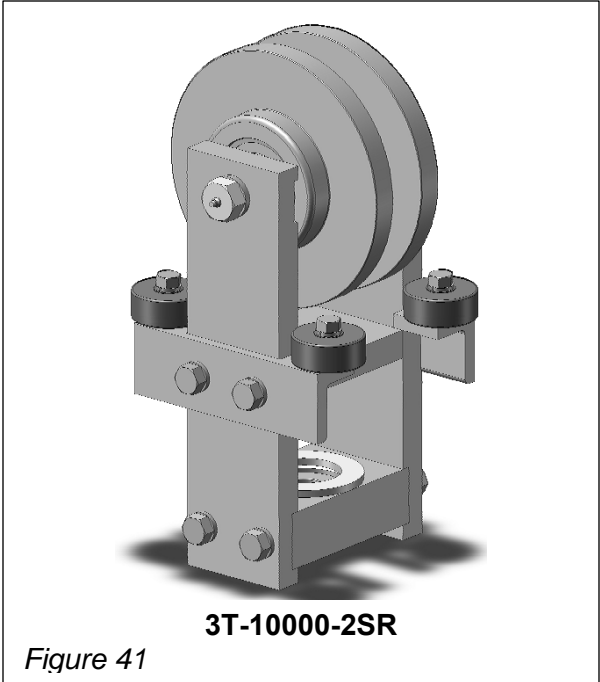
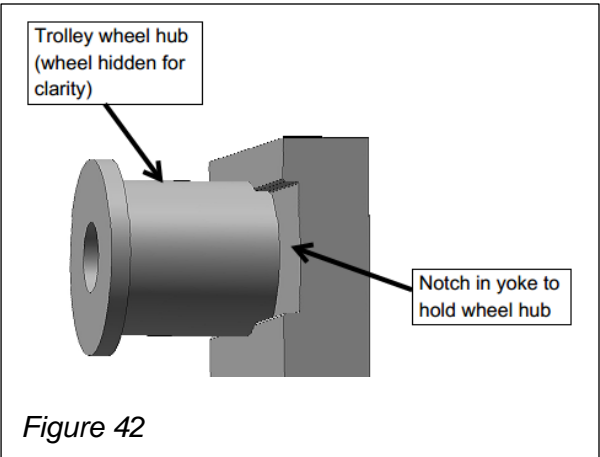

Figure 41
Figure 42
- 3T-10000-2SR** Figure 41 9" dia. wheels
These trolleys feature a fabricated trolley yoke and are only available with flangeless wheels and side rollers. See Figure 41.
Axle bolt with grease fitting in head (shown in Fig. 41) screws into wheel hub which is firmly held in a machined notch in the yoke. See Figure 42.